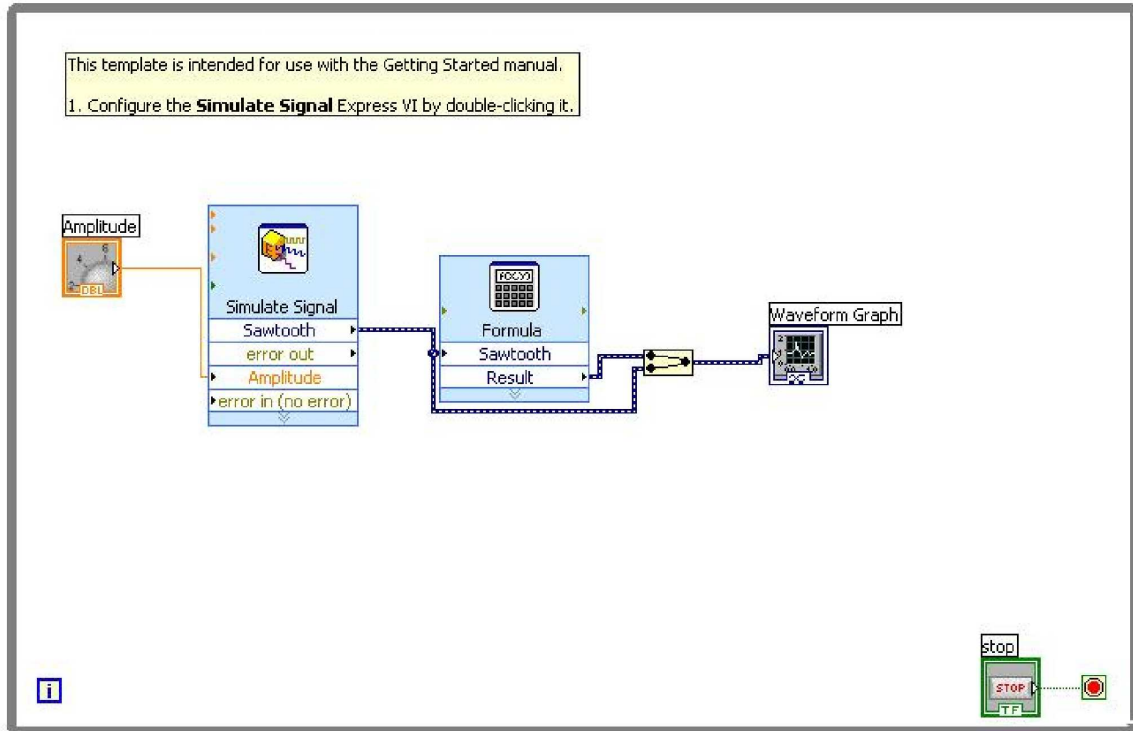

Figure 1:
- Your block diagram will be similar to that shown in Figure 1.